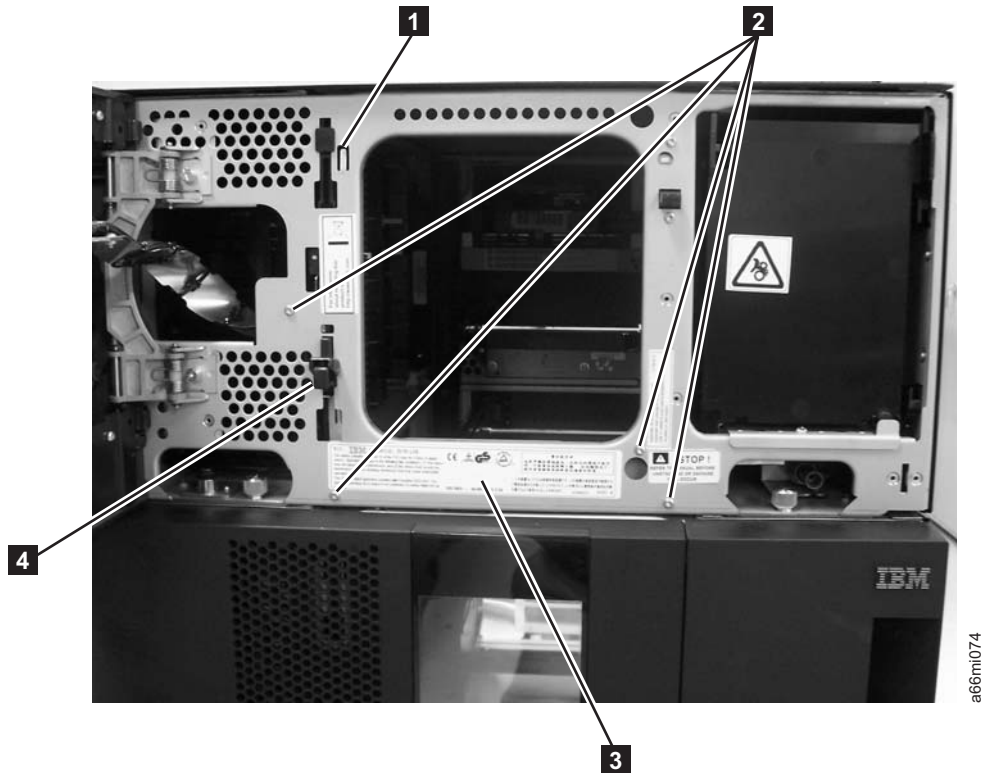

Figure 8-105. Front gear rack
3. There is a small metal tab in the chassis frame (**1** in Figure 8-105 on page 8-97) that prevents the gear rack from falling down too far when the locking mechanism is released. Bend the tab out slightly so the gear rack can be removed.
4. Slightly push up and pinch the gear rack locking mechanism to unlock the front gear rack (**4** in Figure 8-105).
5. While pinching the gear rack locking mechanism (**4** in Figure 8-105), push the gear rack down, then release your hold on the locking mechanism.